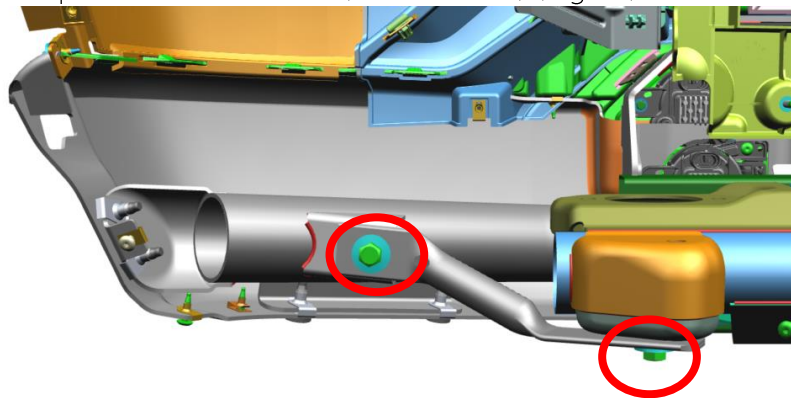

Figure 10 – Driver Pencil Brace
- c. Fully torque to 58 +/- 3 Nm (M15 Socket) (Fig 10)